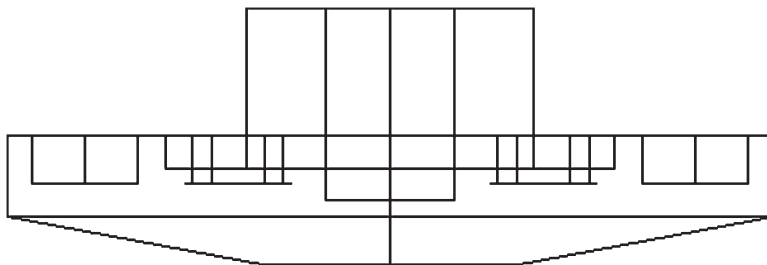

FIGURE 27.18
Step 3. You can pick yes or no. In this example we keep the hidden lines. Press Enter. The flattened 2D model appears as seen in Figure 27.18.